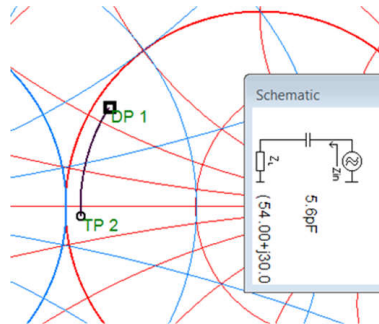

Figure 5-3. Matching the Low-Band With C_{LOW} : 5.6pF and L_{LOW} : NC
- C_{LOW} : 5.6pF and L_{LOW} : NC; see Figure 5-3